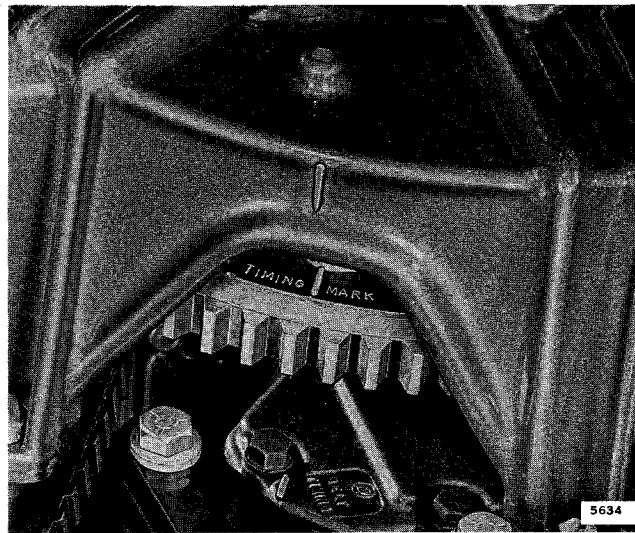

Figure 4-21. Timing Marks - Flywheel
b. Rotate the flywheel so that the timing marks on the flywheel, starter housing, and by-pass cover plate are in line. See Figure 4-21.